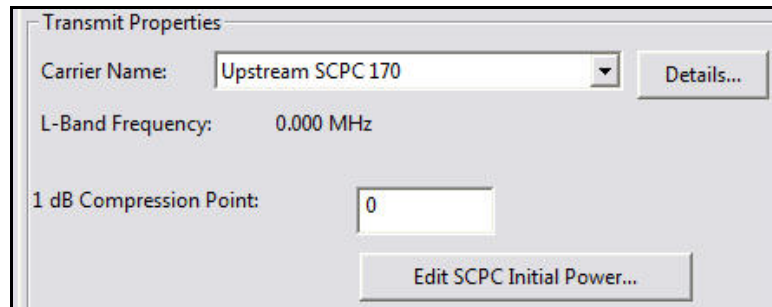

Figure 57. iBuilder Transmit Properties: SCPC Return
2. Scroll down to the Transmit Properties section (Figure 57).